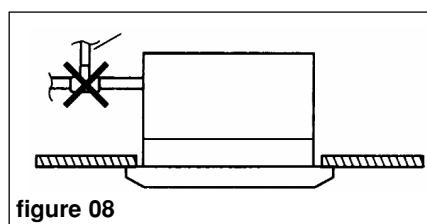

figure 08
- Do not install air intakes (figure 08).